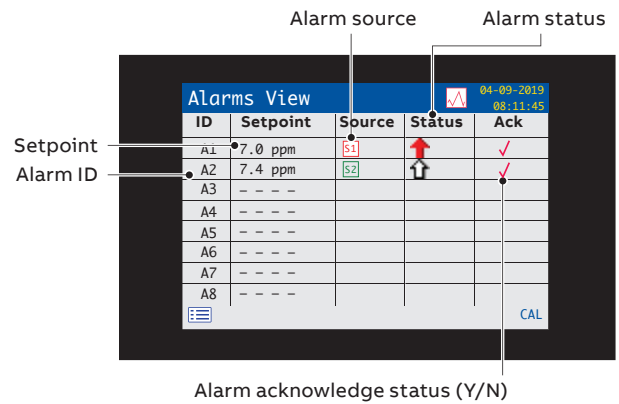

Figure 25 Alarms View
- **Alarms View** – displays a list of alarms, source and status – see Figure 25